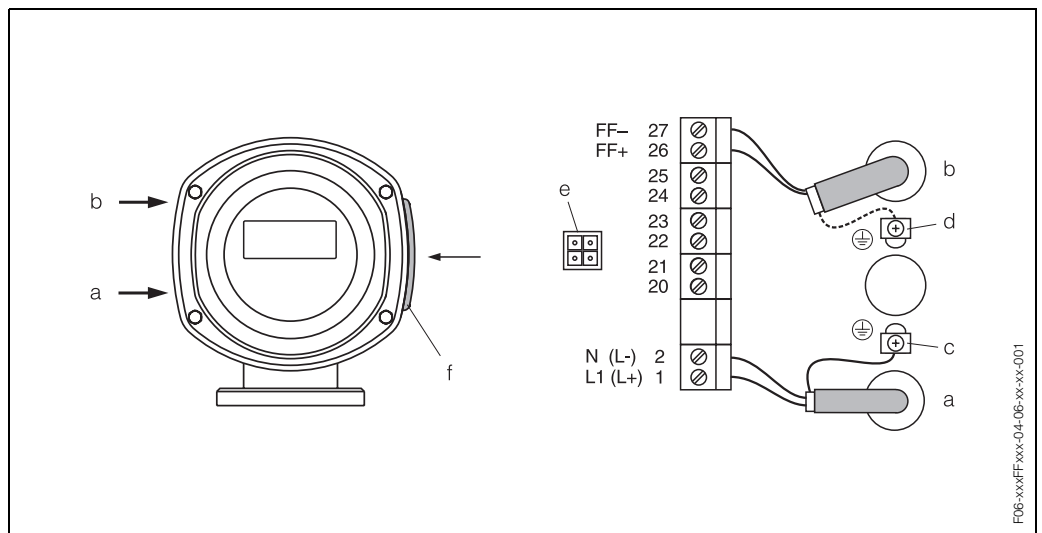

Fig. 33: Connecting the transmitter (stainless steel housing). Cable cross-section: max. 2,5 mm²
- Wiring diagram (stainless steel housing) → Fig. 33